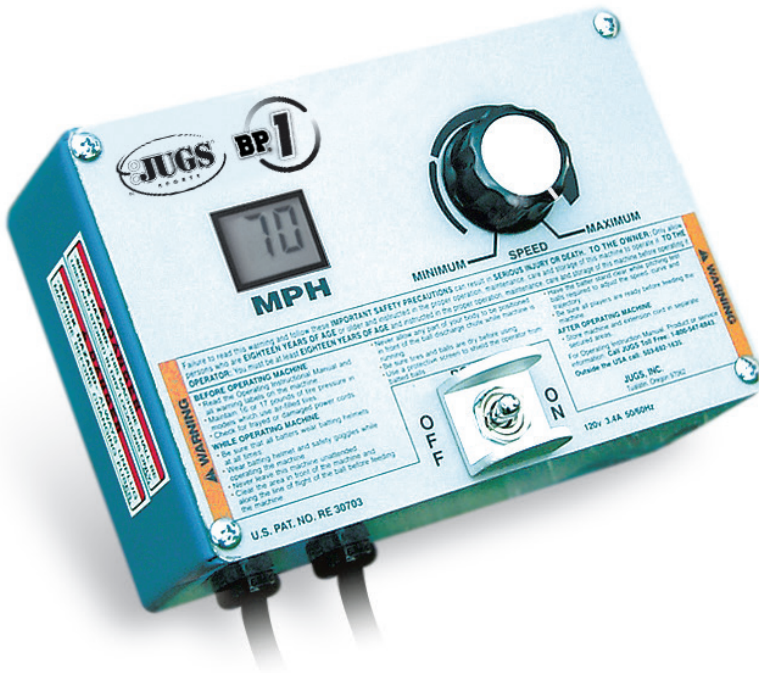

Figure 13. Control Panel
13. Increase the speed of the pitch by turning the dial clockwise (see Figure 13).